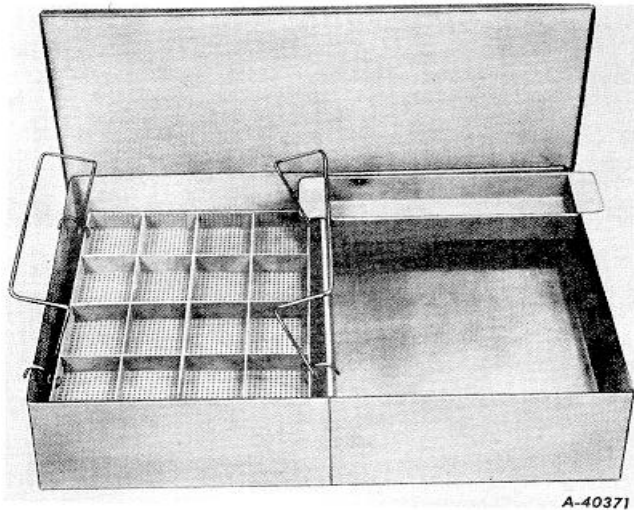

Fig. 114 Hydraulic Lifter Tray SE-189Z
2. To avoid mixing plungers and cylinders, take one lifter apart at a time and complete all servicing before working on another. However, if tray (SE-1892), Fig. 114, is available for keeping plungers and cylinders together, all lifters can then be disassembled at the same time.